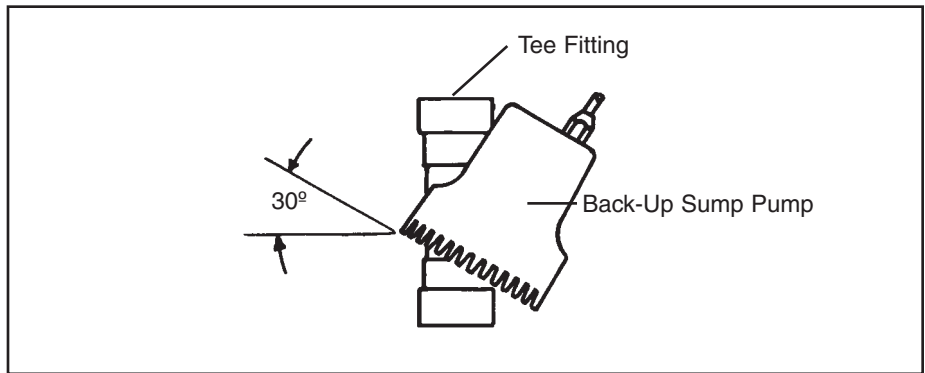

Figure 1 Tilting Pump
5. Assemble back-up pump a minimum of 1" above the primary pump and tilt 30° (per Figure 1 below).